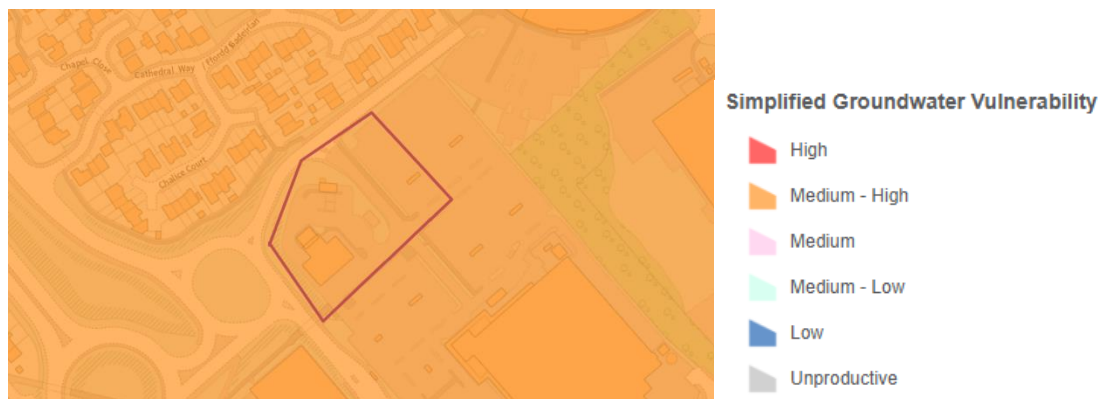

Fig. 5
- 5.6 According to Natural Resources Wales mapping, the site is located within an area of medium-high groundwater vulnerability. (Secondary A aquifers superficial and bedrock), see the simplified groundwater vulnerability map extract Fig. 5 below.